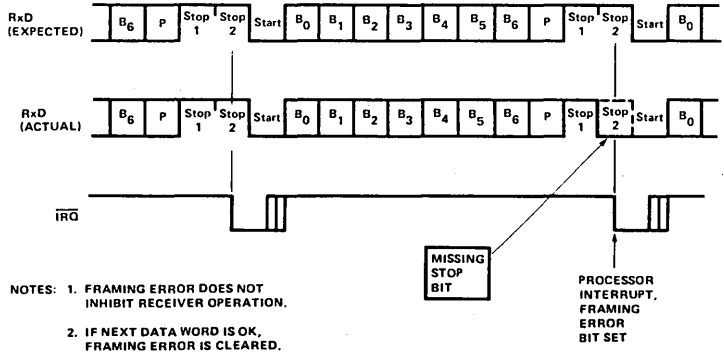

Figure 4-9. FRAMING ERROR
4.1.9 Framing Error (Figure 4-9)